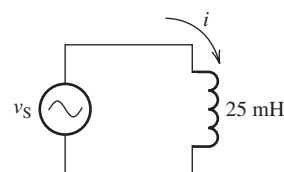

FIGURE P4.33 Inductor circuit.
- 4.33 (B) Given the circuit in Figure P4.33, find the current, i , as a function of time. (Note: v_s is a sinusoid.)